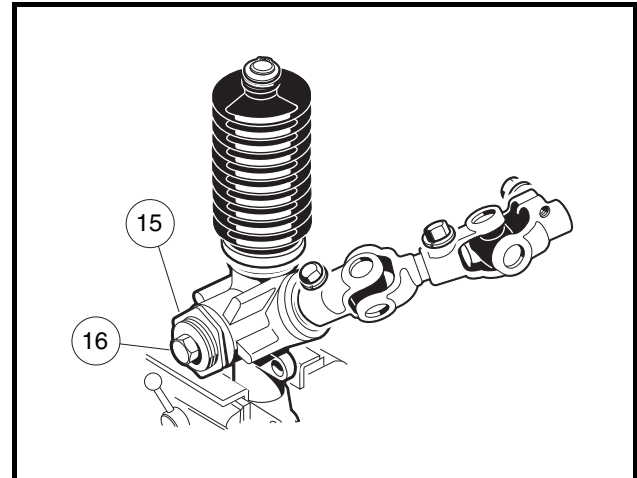

Figure 7-14 Rack and Pinion Adjustment
- 11.4. If measured resistance does not equal 7 to 15 in-lb, loosen the lock nut (15) and tighten the screw (16) until it bottoms out, then back the screw off one quarter turn. Tighten the lock nut to 28 ft-lb (38 N·m) (**Figure 7-14, Page 7-12**). **See following NOTE.**
**NOTE:** When tightening the lock nut (15) make sure the screw (16) does not change adjustment (**Figure 7-14, Page 7-12**).